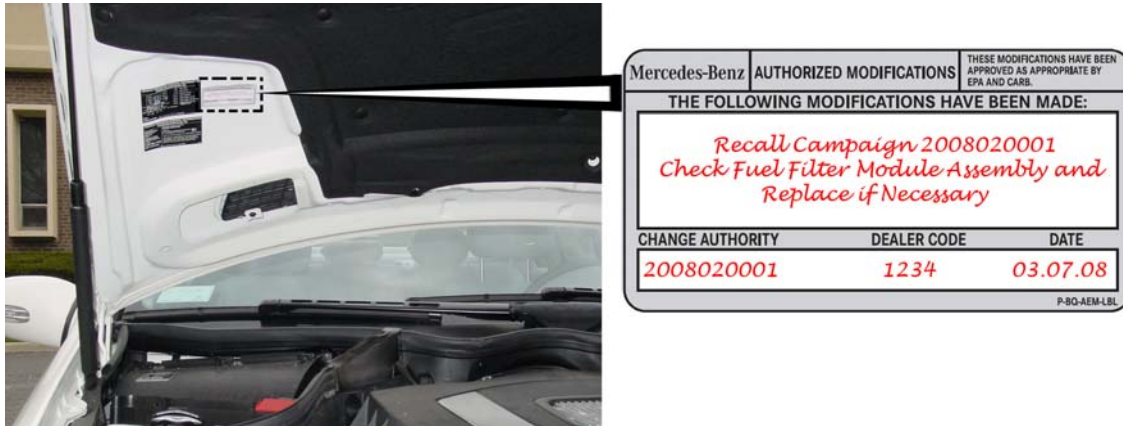

Figure 7
1. Fill out Repair Label and affix on underside of hood next to existing emissions labels (as shown in Figure 7).